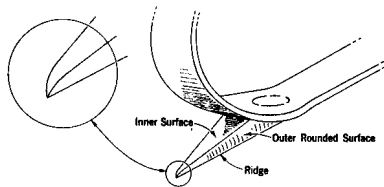

FIGURE 7. Gaff Profile and Point
5.05 Figure 7 shows the ridge of a properly shaped gaff; the ridge is straight.